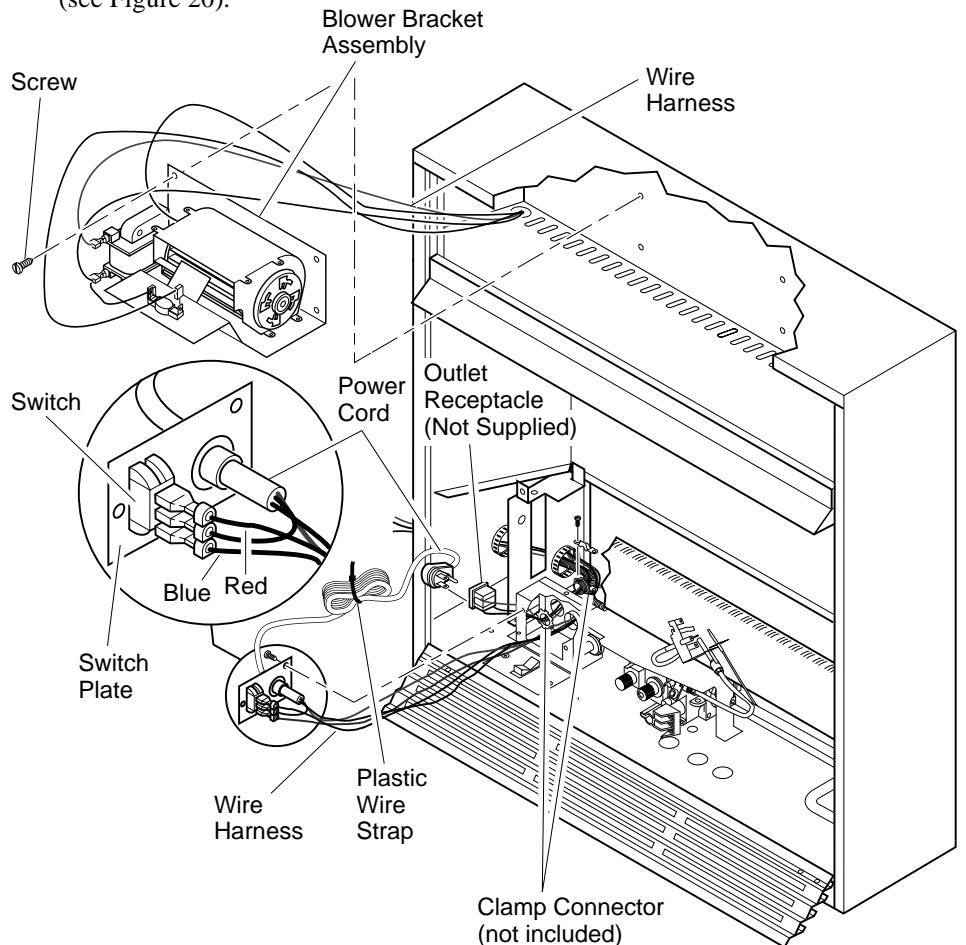

Figure 19 - Installing Blower Bracket Assembly
- Plug power cord to the outlet receptacle (not provided) as shown in figure 19. Wind the extra cable in power cord and and tie it up with the plastic wire strap (see Figure 19). Set the cable bundle between the burner bracket and outer casing, away from the burner.